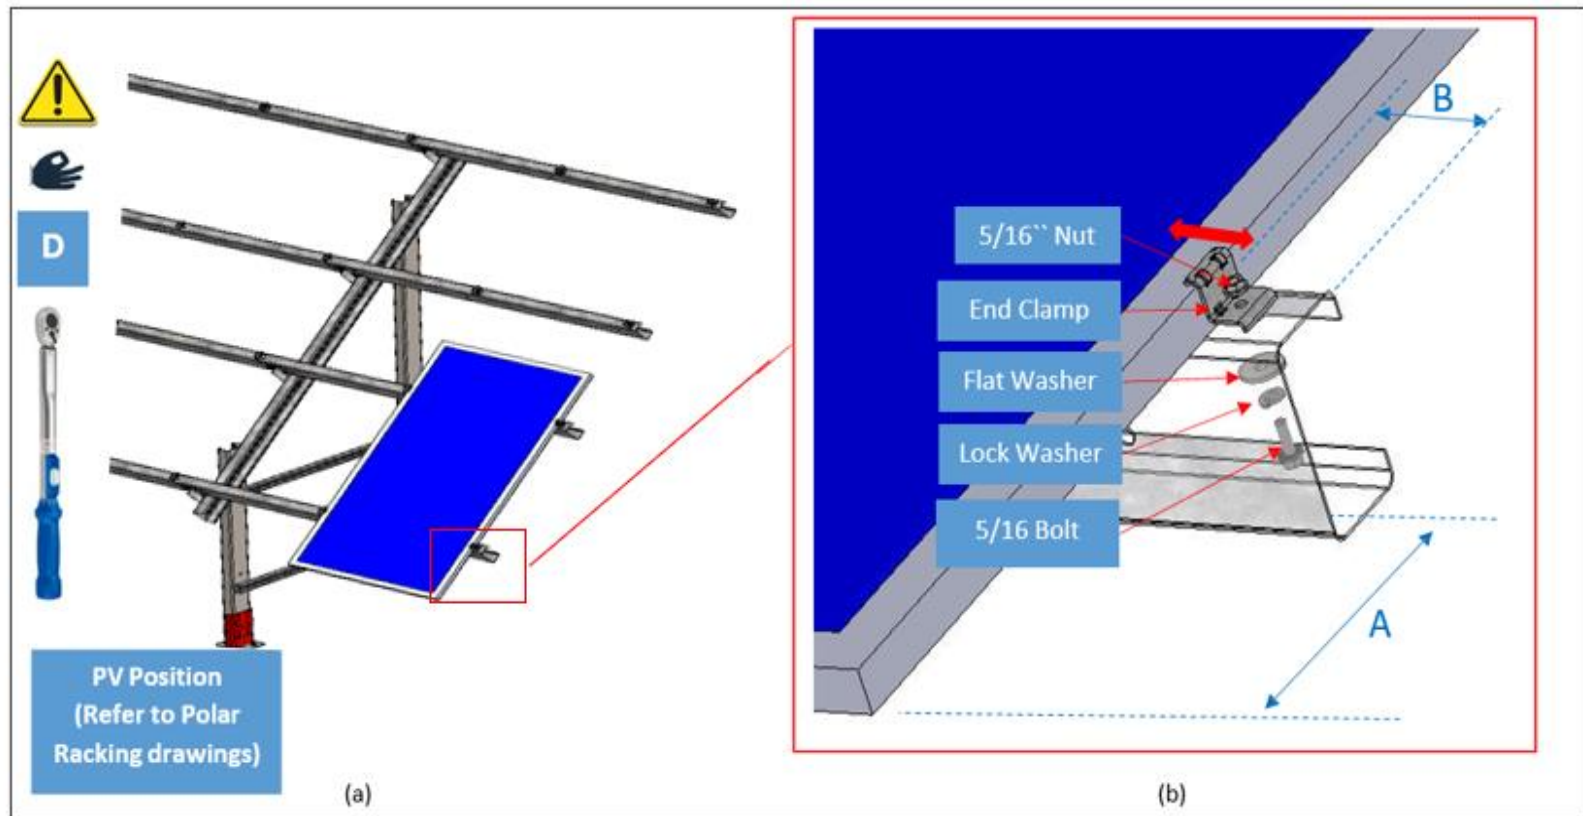

Figure 18: Install the first module and end clamp
Step One Start with the South row and the most easterly module. Position the module on purlins as per construction drawing (verify the clamping zone distance “B” shown in figure 18 (b) and as per the IFC drawings and distance A as per the installation manual of the selected PV module). Fix the first end module with two end-clamps as shown in figure 18 (b) using one (1) 5/16”-18 Serrated flanged Bolt (or Hex Head Bolt), 1.0”Length, Grade 5, Magni 565 Coated or HDG, one (1) flat washer, one (1) lock washer and one (1) 5/16”-18 Serrated flanged nut (or Hex Head), Grade 5, Magni 565 Coated or HDG per clamp. Make sure the vertical wall of the end-clamp and the solar module frame are flush and no gap is present. Do not over-torque the 5/16” bolts, hand tight the bolts first and then torque to specified rate, (See section 2-b of this document for hardware and torque rates). **DO NOT USE IMPACT GUN WITH ANY 5/16” BOLT.**